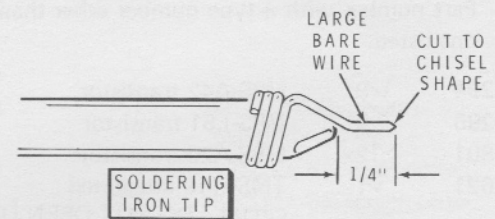

Figure 1
- If a small wattage, small-tip soldering iron is not available, proceed as follows: Be sure your soldering iron is cool. Wrap the large bare wire (supplied) tightly around the soldering iron tip as shown in Figure 1. Allow approximately 1/4" of wire to extend beyond